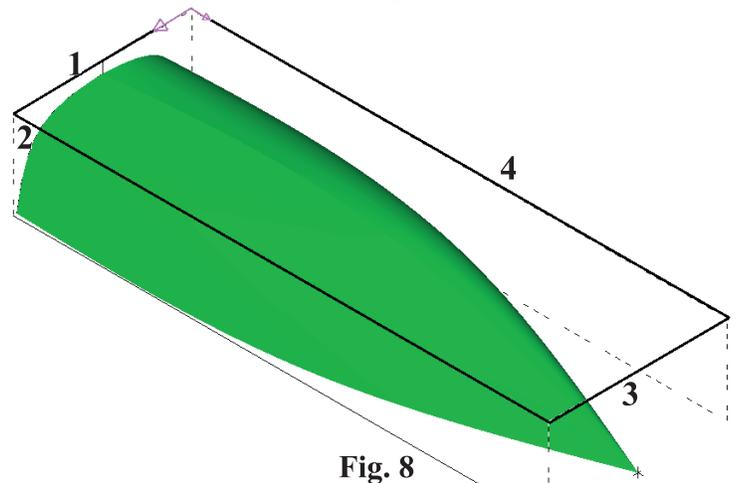

Fig. 8
Step 18. Click the top lines of the block, 1, 2, 3 and 4 in order, **Fig. 8**.